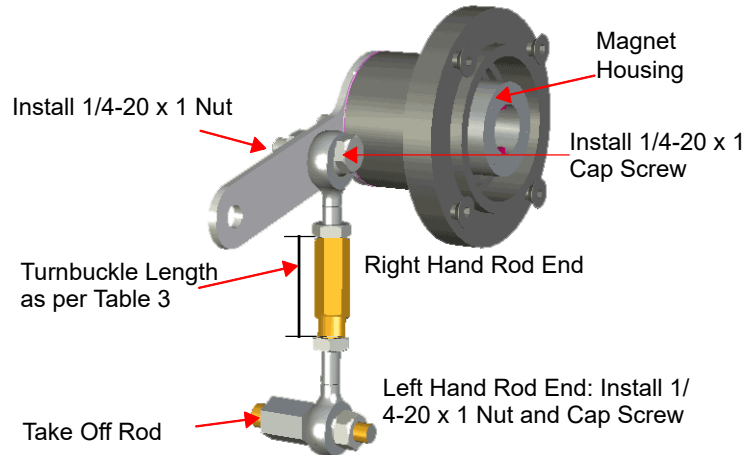

Figure 19 - SVi1000 Take Off Rod Mounting
- Thread the take-off rod to the actuator stem connector (Figure 19).
- Attach the right hand threaded rod end to the lever using a 1/4 - 20 x 1" cap screw and nut (Figure 19).
- Thread the turnbuckle onto the left hand threaded rod end (Figure 19).
- Adjust the turnbuckle until the hole in the lever is aligned with the alignment hole in the bracket. Tighten both turnbuckle lock nuts (Figure 19).